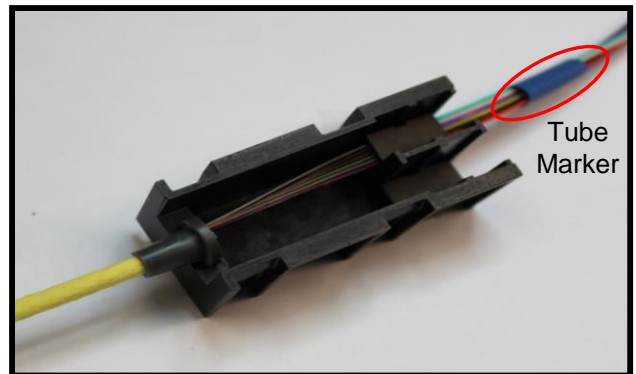
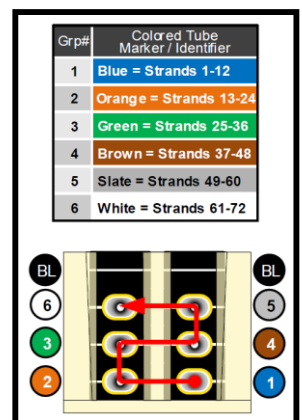

Figure 8A
Figure 8B
7.7 Carefully place the Breakout Unit Assemblies into the Base Unit cavity. (Blue, Orange Green and Brown Slate & White) to maintain correct color-order sequence. **See Fig. 8A & Fig 8B**
7.9 Slide the 8 colored Tube Markers “Sleeves” into position over the corresponding break out assemblies. See **Fig 8A**.